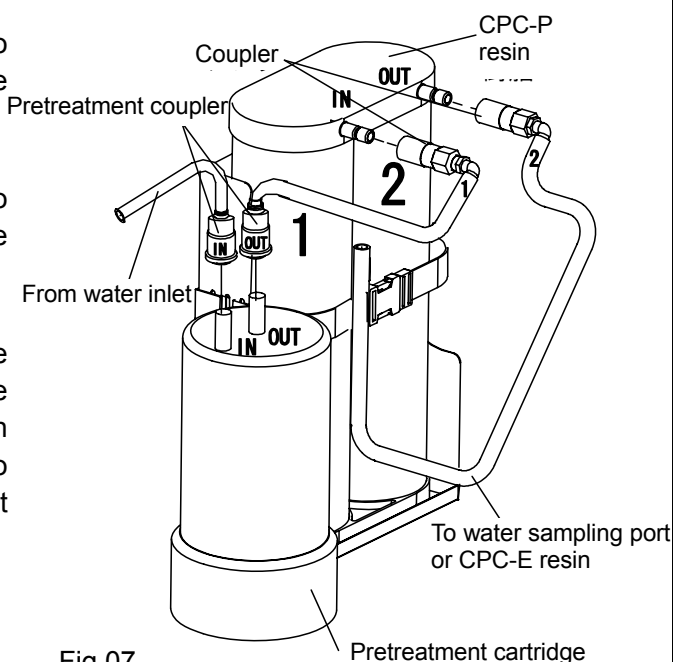

Fig.07
- (1) Press the coupler with (2, OUT) mark into the outlet (right side) of the ion exchange resin cartridge (CPC-P) till it clicks.
- (2) Press the coupler with (1, IN) mark into the inlet (left side) of the ion exchange resin cartridge (CPC-P) till it clicks.
- (3) Press the coupler with (OUT) mark into the outlet (right side) of pretreatment cartridge and the coupler with (IN) mark, which extends from the backside to the front, into the inlet (left side) of pretreatment cartridge, till they click. (See Fig. 07)